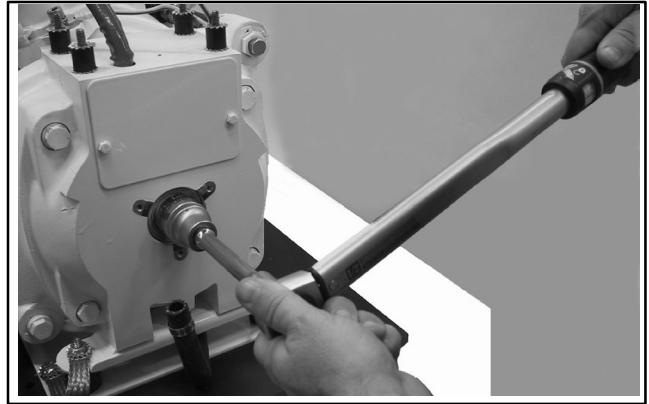

Figure 10-22 Seawater Pump Shaft
7. Tighten the 27 mm nut of the seawater pump shaft at the specified torque (see section 1.5) to strengthen the tapered connection between the rotor and the alternator through stud. See Figure 10-22.